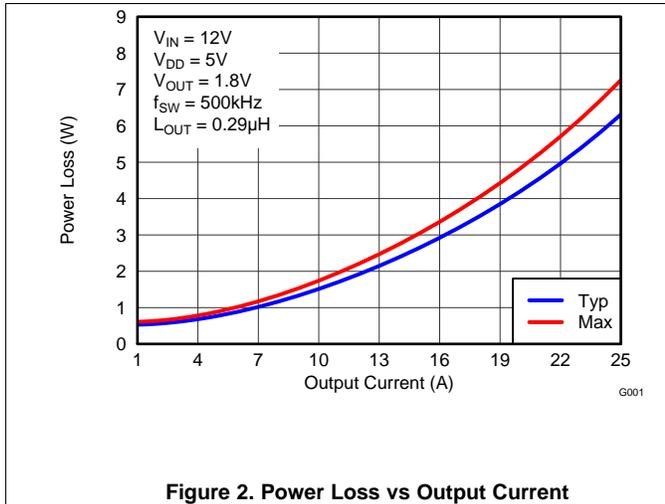
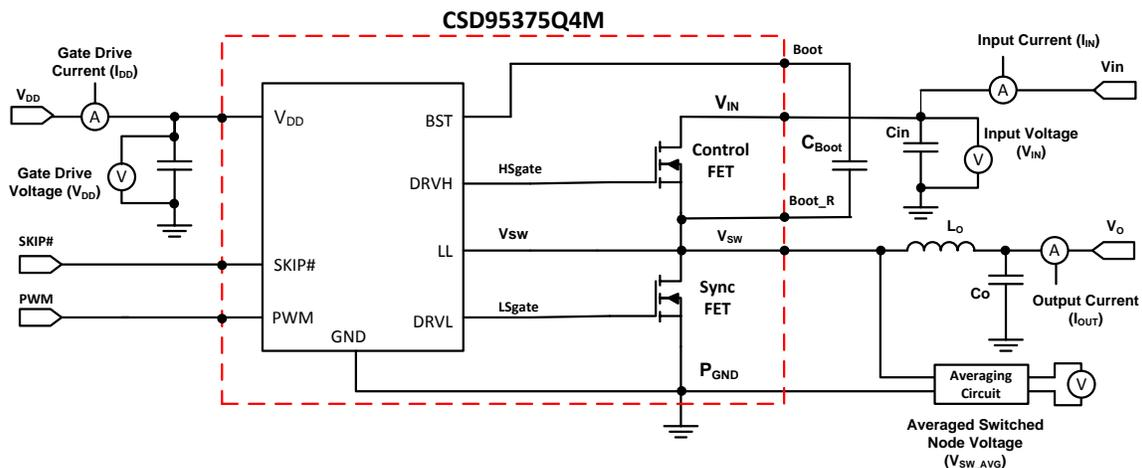

Figure 2. Power Loss vs Output Current
Figure 14. Power Loss Test Circuit
MOSFET centric parameters such as $R_{DS(ON)}$ and Q_{gd} are primarily needed by engineers to estimate the loss generated by the devices. In an effort to simplify the design process for engineers, Texas Instruments has provided measured power loss performance curves. Figure 2 plots the power loss of the CSD95375Q4M as a function of load current. This curve is measured by configuring and running the CSD95375Q4M as it would be in the final application (see Figure 14). The measured power loss is the CSD95375Q4M device power loss which consists of both input conversion loss and gate drive loss. Equation 1 is used to generate the power loss curve.
The power loss curve in Figure 2 is measured at the maximum recommended junction temperature of $T_j = 125^\circ\text{C}$ under isothermal test conditions.
- Typical Power Loss at 10 A = 1.5 W (Figure 2)